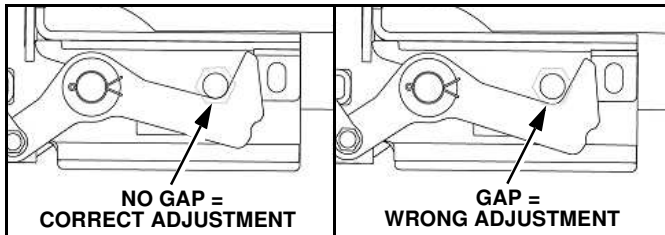

Figure 1-43
6. Periodically the turnbuckle will need to be adjusted due to wear and tear of the VRM. (See Figure 1-43.)